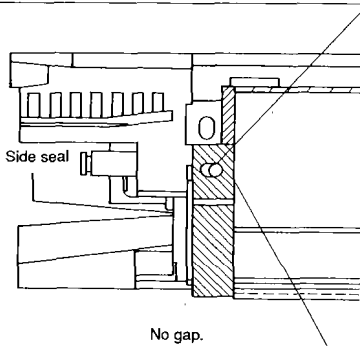

Figure 4-80 (front view)
- 2) Attach the side seals at the locations shown in Figures 4-80 and -81; short, then long seal.